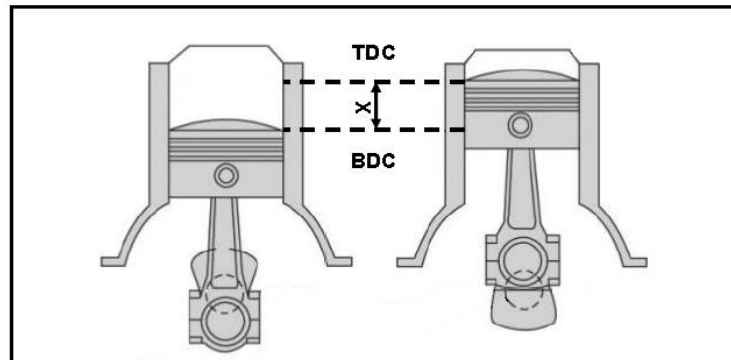

FIGURE 4.14
4.14 What does the symbol 'X' signify in FIGURE 4.14 below?